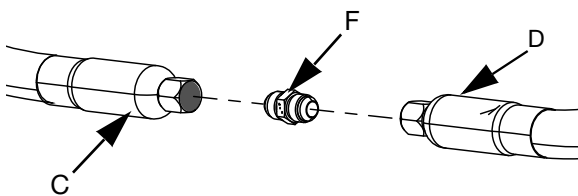

FIG. 20
- 6. If you are using two supply hoses (C and D), use the Supply Hose 1 to Supply Hose 2 Fitting (F) to connect Supply Hose 1 (C) to Supply Hose 2 (D). See FIG. 20.